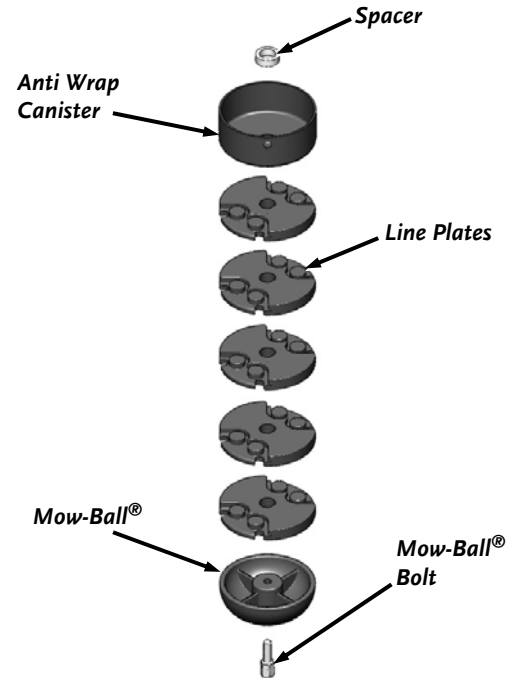

Figure 18
Improper installation can cause damage to the trimmer bearings. Follow these directions carefully to protect your machine from damage. Reassemble the components in the order shown in *figure 18*.
1. Place the Spacer and Anti Wrap Canister (with the lip facing up) onto the Shaft (*Figure 18*).